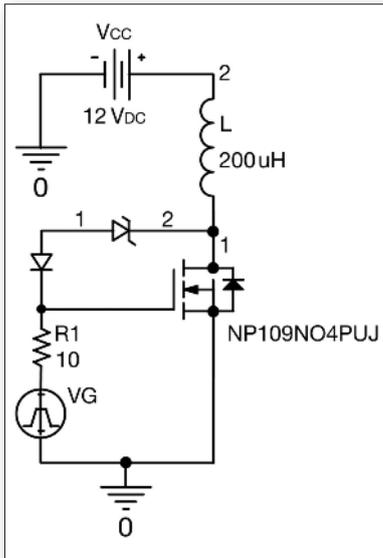

Figure 4: Simplified circuit for active clamp operation
to stop the Power MOSFET from avalanching (see Figures 4/5/6). This involves using a Zener diode and a conventional diode between the drain and gate connectors, where the Zener voltage is lower than the Power MOSFET's breakdown voltage. If there is a voltage peak at the drain, the Zener diode will maintain the Zener voltage and the gate potential will be increased, putting the Power MOSFET into linear mode. In this way, the inductive energy can be dissipated safely. In the example shown below, the drain current (ID) of 5 A is switched off. The Zener diode limits the drain voltage to about 30 V and the Power MOSFET goes into linear mode (VGS ~4 V). The duration of this linear operation is about 0.4 ms and the current-voltage characteristic is still below the 1 ms curve.